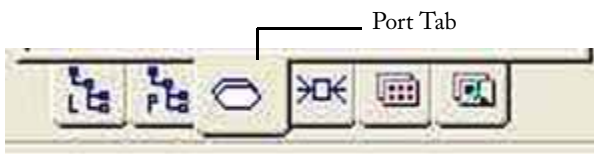

Figure 3-33. Port Tab
2. Select the *port* tab in the MultiView Navigator window, as shown in Figure 3-33.